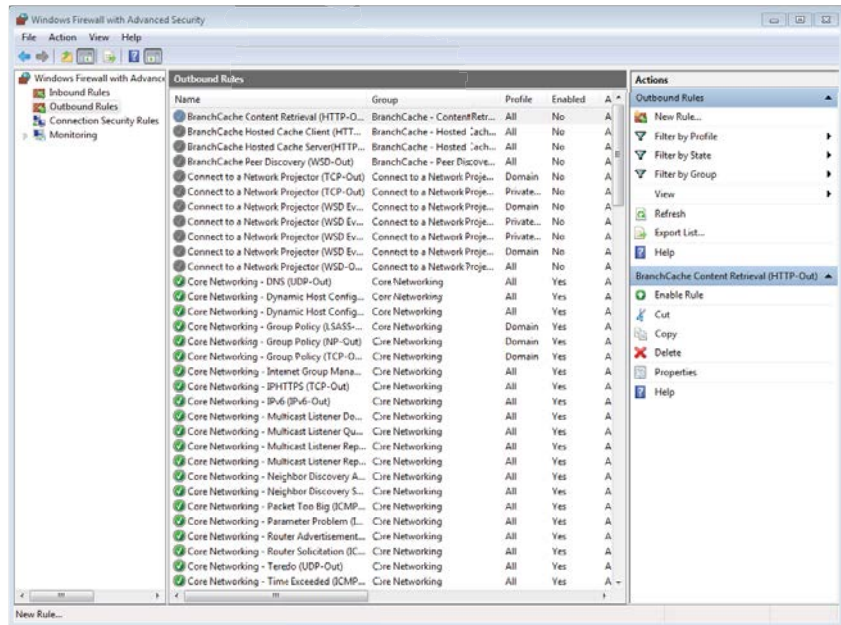

Figure 6. Windows Firewall with Advanced Security Window
8. Create an outbound transmission control protocol (TCP). Create an always allow rule for the firewall for Port 22 and Port 55555 in Windows Firewall or other antivirus programs (such as Avast, Norton, AVG, or Sophos), as shown in Figure 6. Steps for creating these rules in Windows Firewall follow.